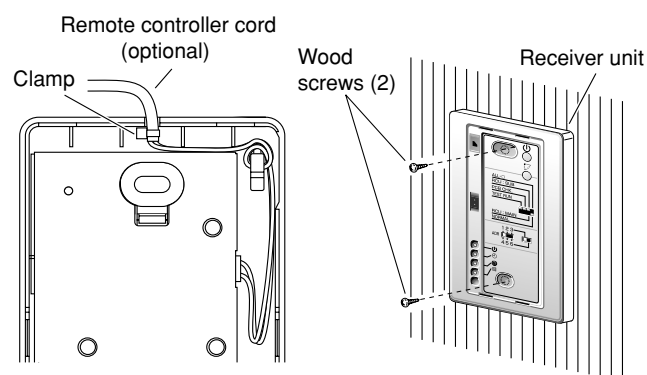

Fig. 11-25
4. Fasten the remote controller cord (optional) at the position shown in Fig. 11-25, using the provided clasper. Then connect the cord to the receiver connector.
5. Shape the remote controller cord as shown in Fig. 11-25 so that it fits at the top inside the receiver unit, above the PCB. Then attach the lower case. At this time, bend the head of the clamp so that it faces sideways.